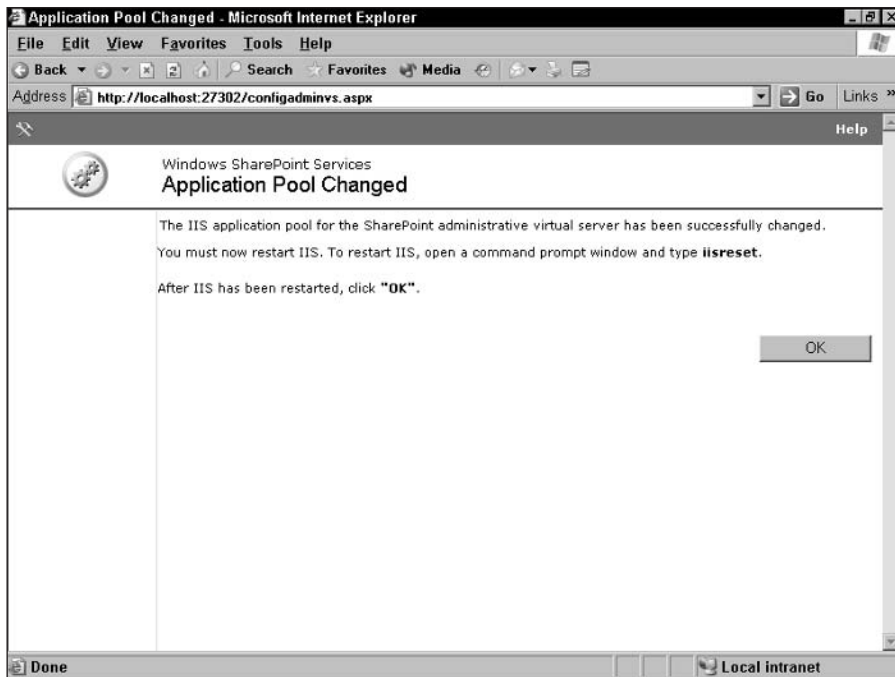

Figure 18-14: Leave this page open while you restart IIS.
1. In the Configure Administrative Virtual Server dialog box, select the Use an existing application pool option button (in the text box, you see `StsAdminAppPool`). Scroll to the bottom of the page, and click OK. The Application Pool Changed page appears (see Figure 18-14), where you are instructed to restart IIS.